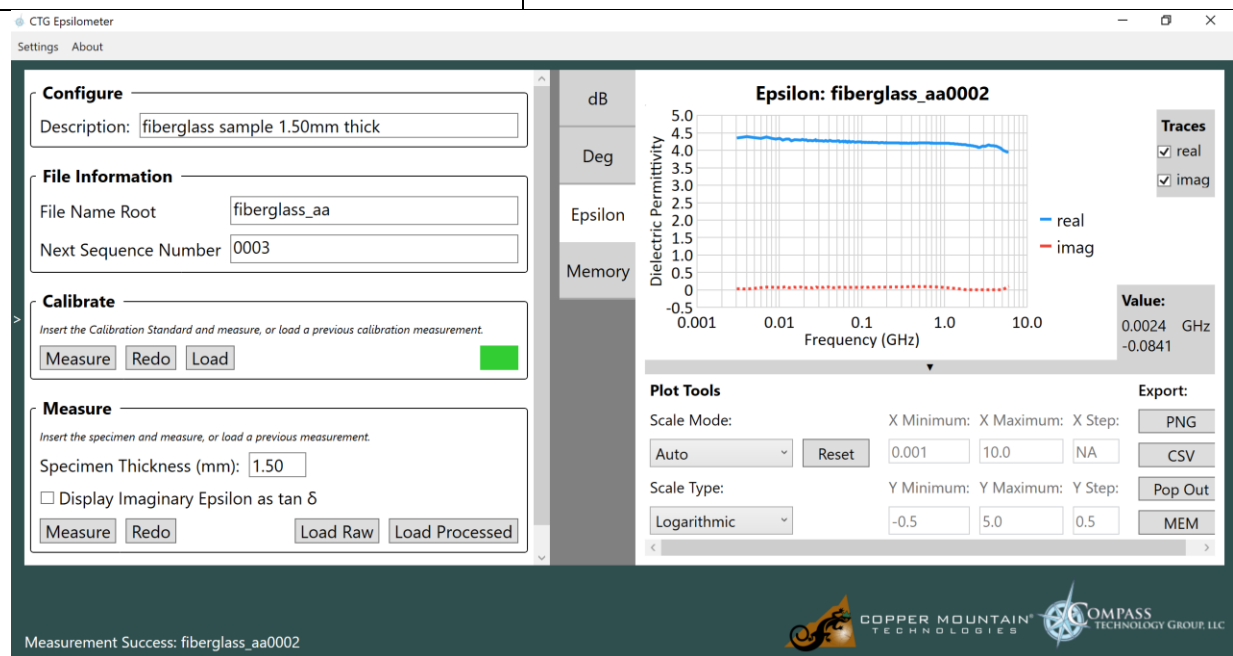

Figure 15. Measure Epsilon
5. Click “Measure” in the “**Measure**” Group Box to measure the dielectric permittivity of the specimen. (Figure 15)